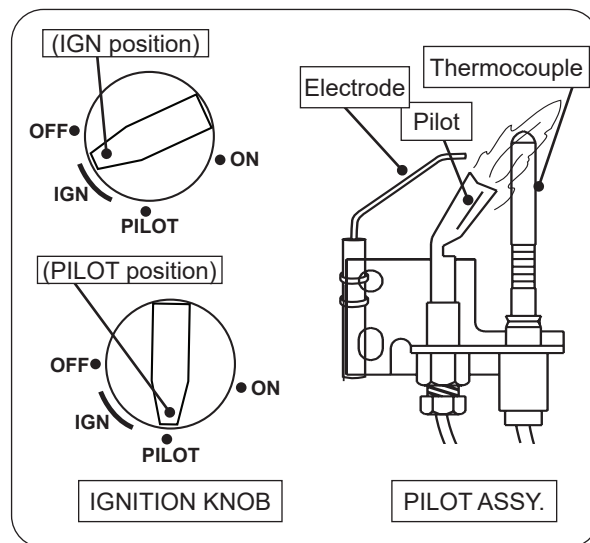

Fig. 30-1 Pilot lighting
3. Locate the pilot assembly on the side or rear of the burner pan (see Fig. 30-1).
5. While still holding the knob in, turn the knob counterclockwise to PILOT until you hear a click (piezo igniter will activate and light pilot). Continue to hold the knob in for about one (1) minute after the pilot is lit. Release the knob and it will pop back out. The pilot will remain lit. See Fig. 30-1. If it goes out, repeat steps 2-5.